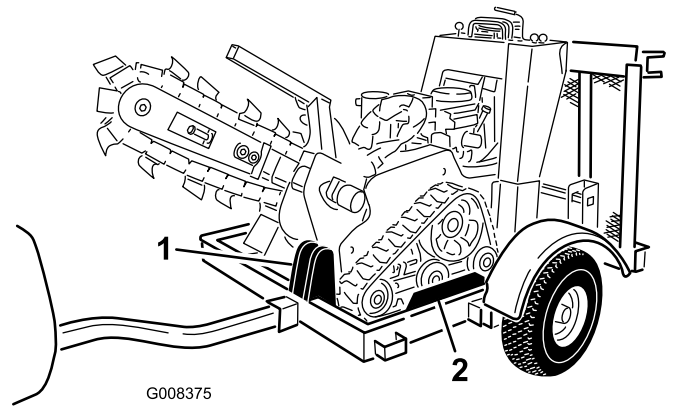

Figure 17
5. Take care to load the trencher with the tracks between guide rails on the trailer bed (Figure 17).